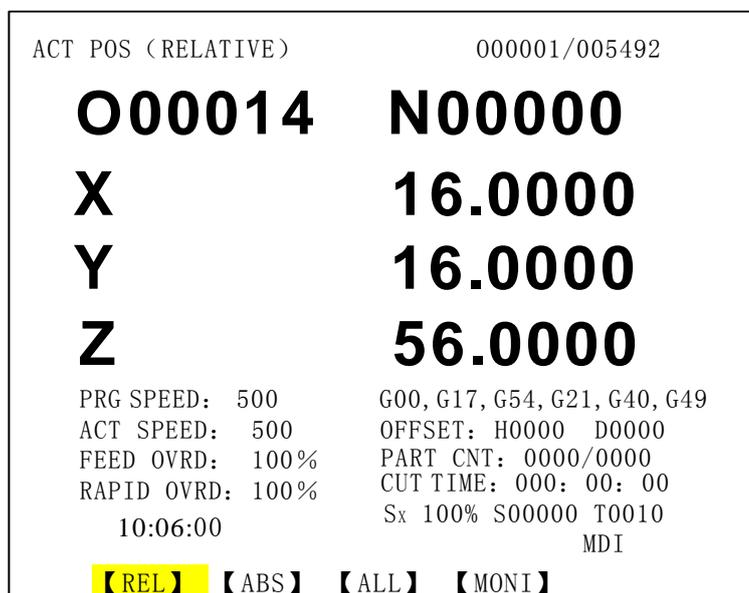

Fig. 3-1-1-1
1) Relative mode: It displays the coordinate of the current tool in relative coordinate system by pressing **【REL】** soft key, called “relative” in following (see Fig.3-1-1-1):